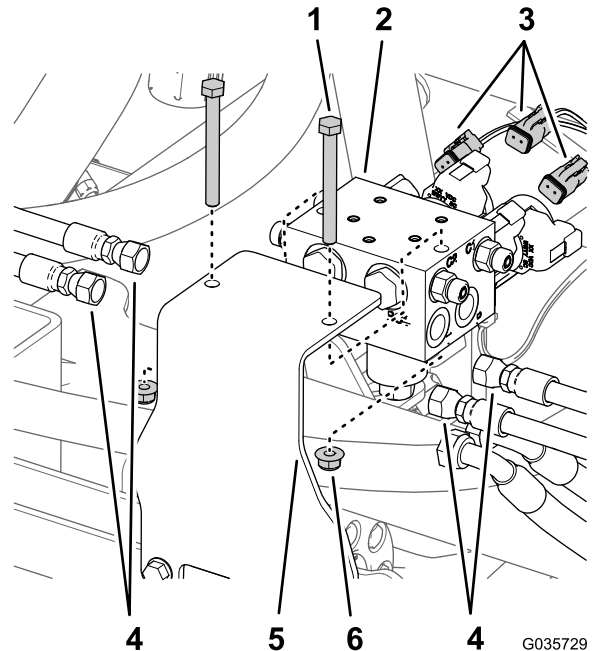

Figure 12
- Label all the hoses connected to the lift-cylinder manifold (ports C1, C2, C3, and C4), and disconnect them from the cylinder manifold (Figure 12).
- Disconnect the rear-wire harness connectors from the solenoids of the lift-cylinder manifold (Figure 12).
- Remove the lift-cylinder manifold from the mounting bracket by removing 2 bolts and 2 locknuts (Figure 12).